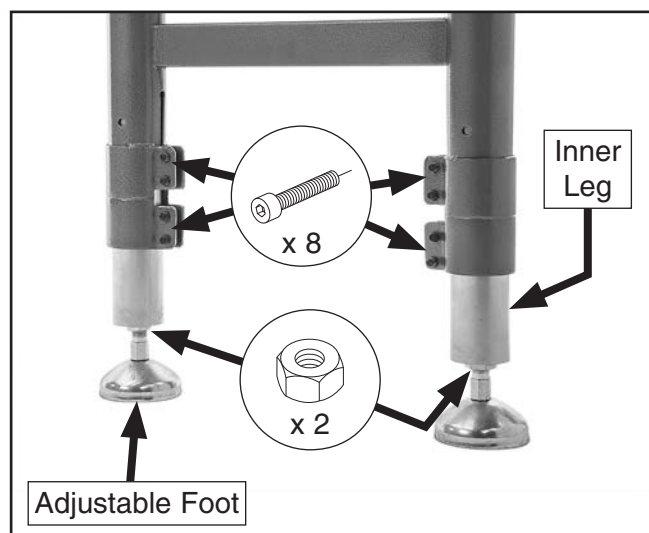

Figure 7. Loosen cap screws to adjust leg assembly height. Loosen hex nuts to adjust feet.
1. While assistants hold each end of roller table, loosen (2) M16-1.5 hex nuts on bottom of legs, then loosen (8) cap screws on each leg assembly just until inner legs move freely (see **Figure 7**).